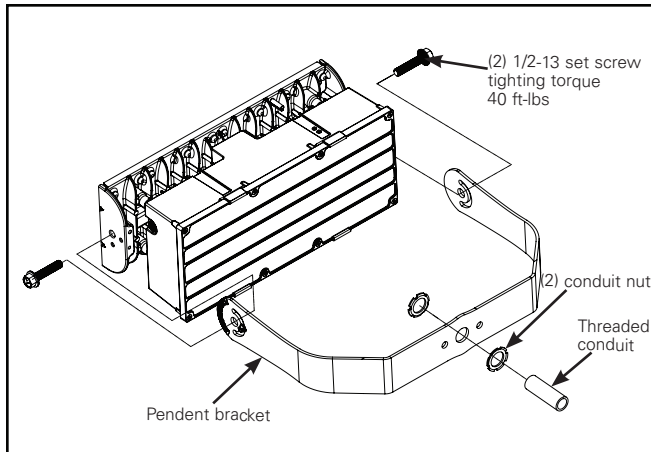

Figure 9.
- Thread the first conduit nut (not supplied) onto the end of the threaded conduit. Place the conduit through the circular opening of pendant luminaire bracket (Fig 9).